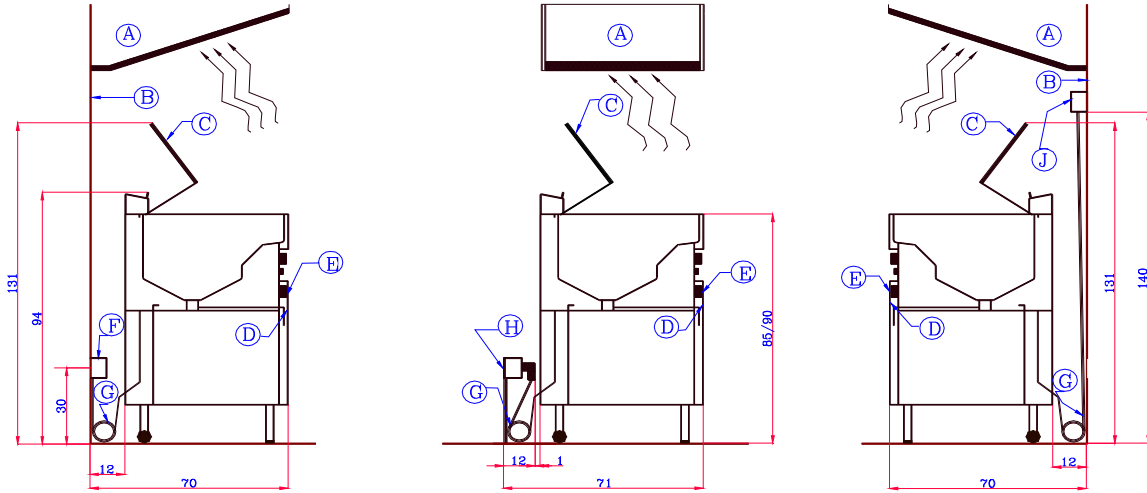

Fig. 1: Fryer against wall with socket IP X2
Your mains data (voltage, current, fuse protection) must conform to the data on the fryer rating plate (The rating plate is mounted on the inside of the door (Figs. 1 to 3 = D).
3.2.1 Installation example I (Fig. 1)